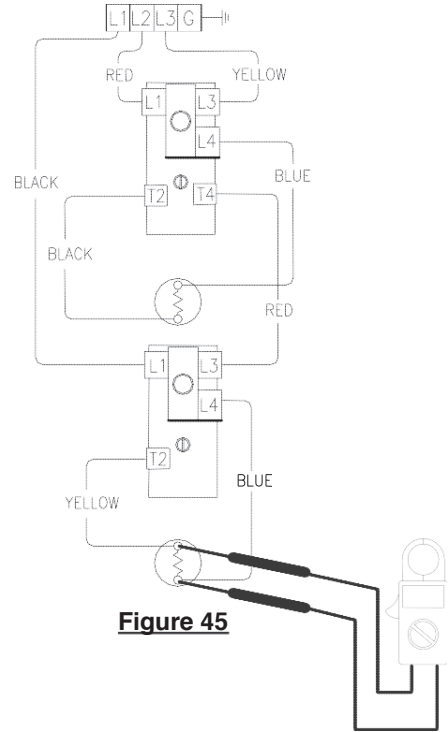

Figure 45
8. Check voltage across lower element (see Figure 45).